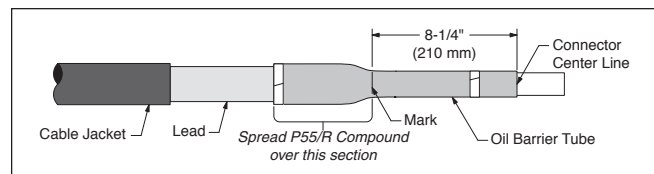

Figure 8
- 3.9 Mark oil barrier tube 8-1/4" (210 mm) from connector center line. Spread a light coat of P55/R Compound (red) over the oil barrier tube and the white restricting tape from the mark location to the lead end of the tube (Figure 8).